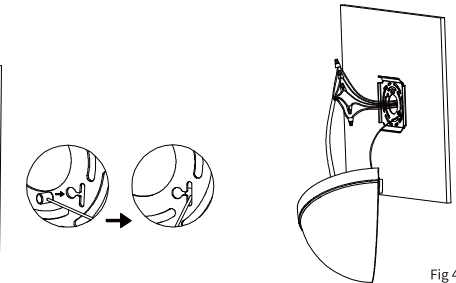

Fig 4
4. Connect the wires of the lamp and the wires of the junction box, as shown in Fig 4